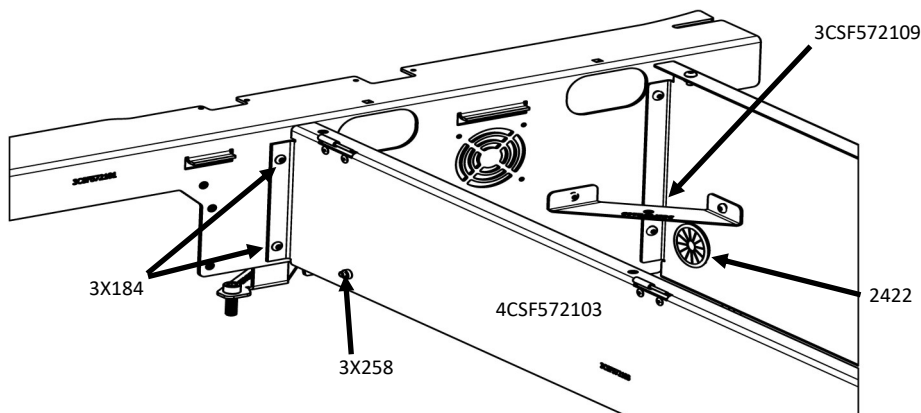

Figure 4
1. Locate the Mid Panel Assembly [4CSF572103] and (4) [3X184] 1/4"-20x03/4" button head cap screws.
2. Insert Mid Panel Assembly between side panels with top lip facing front of the vehicle. Align holes in side flanges with mounting holes in side panels. Loosely secure with (2) [3X184] 1/4" screws into driver side panel. Repeat on passenger side (Figure 4).
3. Install (2) grommets in 2" holes in front wall of electronics compartment. (Figure 4)